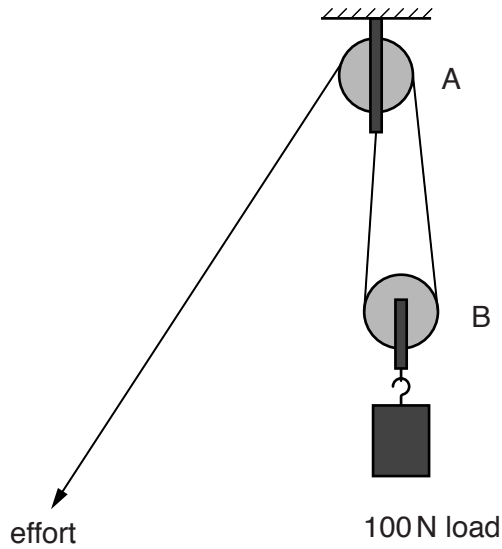

Fig. 1
- 1 (a) Fig. 1 shows a mechanical system to lift a load using two pulleys.
- (i) Describe the effect of using the pulley system in Fig. 1.